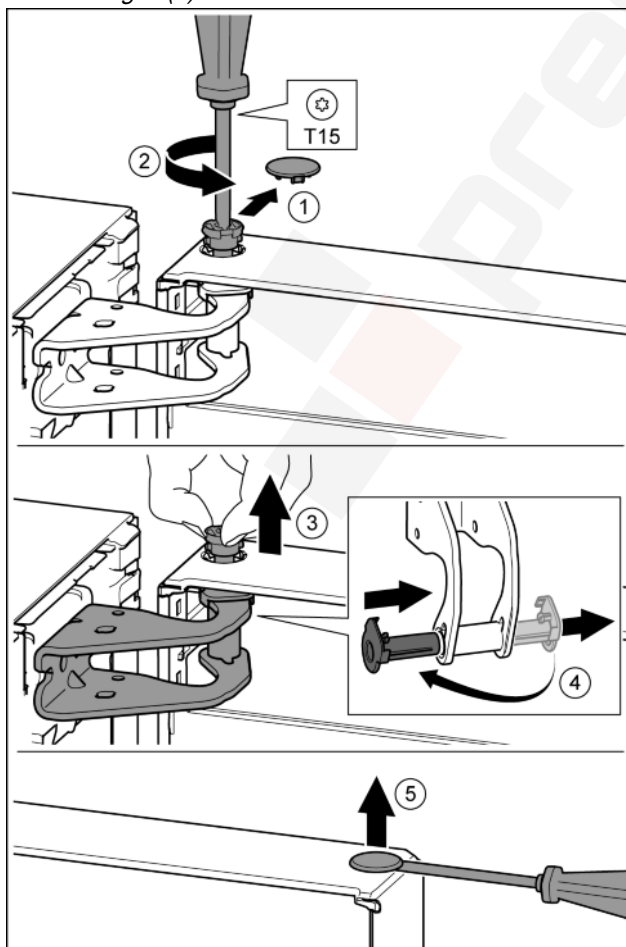

Fig. 7
- Carefully remove the protective cover. Fig. 7 (1)
- Undo the bolt a little with a T15 screwdriver. Fig. 7 (2)
- Hold the door and remove the bolts with your fingers. Fig. 7 (3)
- Pull the bearing bush out of the guide. Insert from the other side and click into place. Fig. 7 (4)
- Carefully lift the plugs out of the door bearing bush with a slotted screwdriver and remove. Fig. 7 (5)